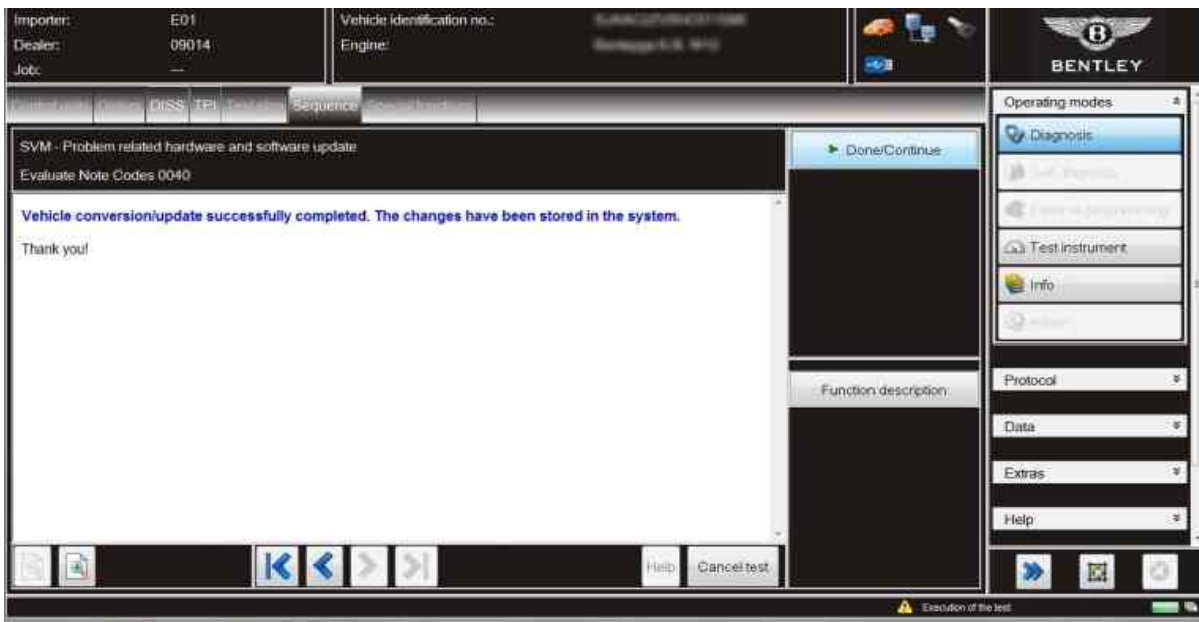

Figure 7
15. Select Done/Continue at successfully completed screen to finalise the update (Figure 7)